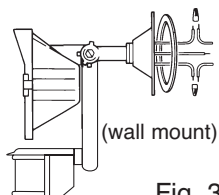
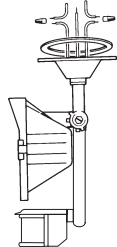

Fig. 3
Fig. 4
1. Thread fixture wires through coverplate gasket (Fig. 3 and Fig. 4).
Wall Mount (Fig. 3)
Eave Mount (Fig. 4)